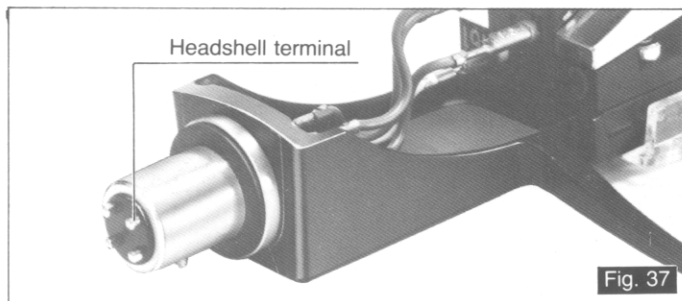

Fig. 37
④ Wipe the headshell terminals from time to time. (See Fig. 37).